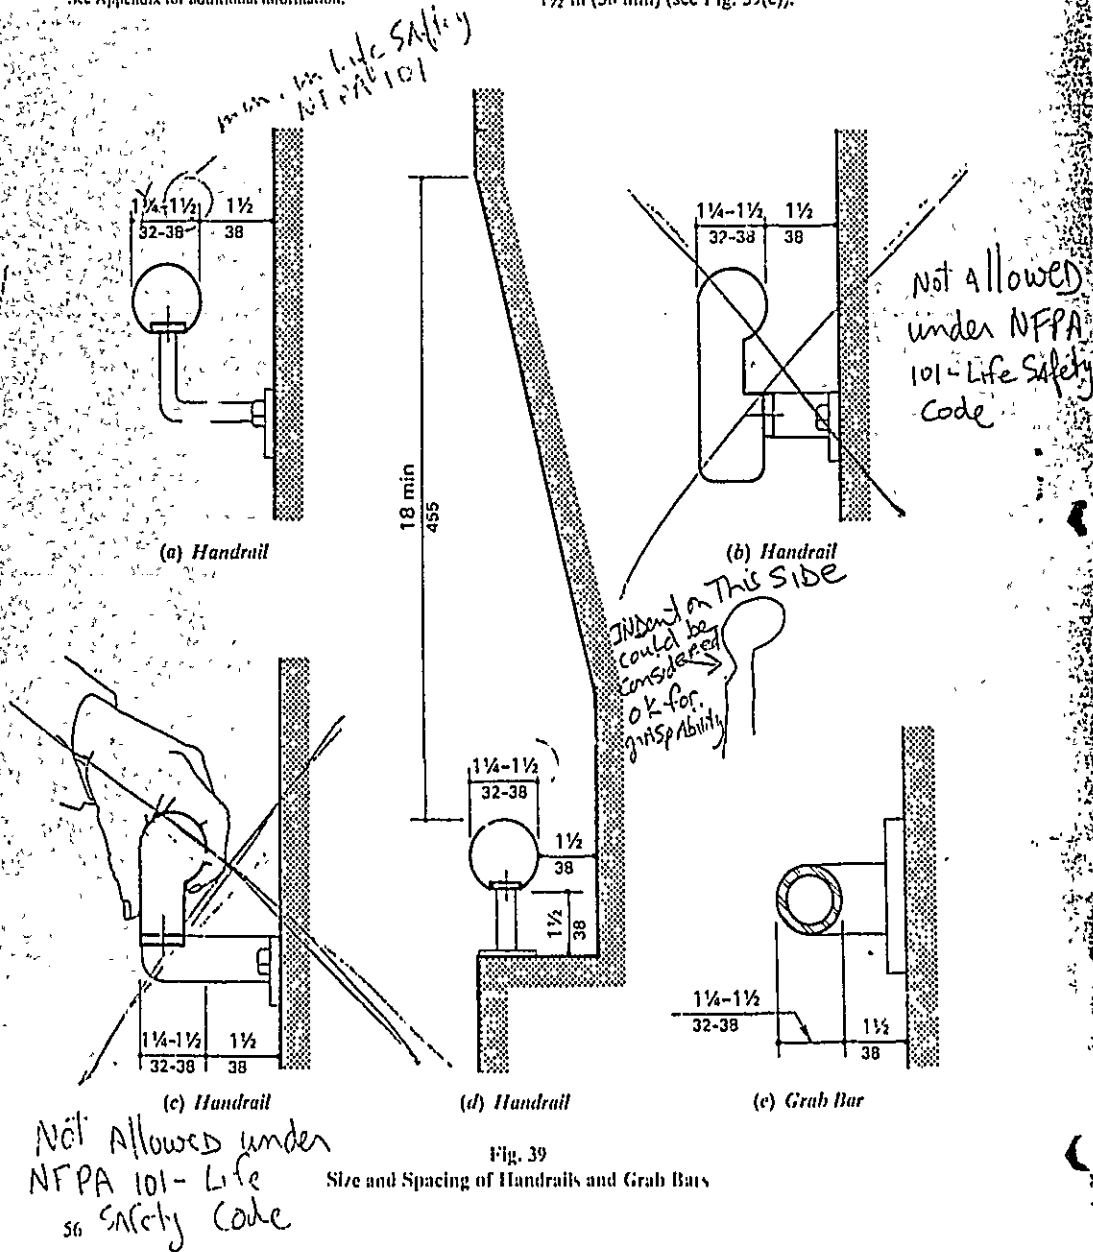

Fig. 39
- (1) Handrails shall be provided along both sides of ramp segments. The inside handrail on switch-back or dogleg ramps shall always be continuous.
- (2) If handrails are not continuous, they shall extend at least 12 in (305 mm) beyond the top and bottom of the ramp segment and shall be parallel with the floor or ground surface.
- (3) The clear space between the handrail and the wall shall be 1½ in (38 mm). Handrails may be located in a recess if the recess is a maximum of 3 in (75 mm) deep and extends at least 18 in (455 mm) above the top of the rail (see Fig. 39(d)).
- (4) Gripping surfaces shall be continuous, without interruption by newel posts, other construction elements, or obstructions.
- (5) The diameter or width of the gripping surfaces of a handrail shall be 1½ in (38 mm) to 2 in (51 mm), or the shape shall provide an equivalent gripping surface (see Fig. 39(a), (b), and (c)). Standard pipe sizes designated by the industry as 1½ in (38 mm) to 2 in (51 mm) are acceptable industry tolerances as noted under 3.2.
(6) The top of handrail gripping surfaces shall be mounted between 30 in and 34 in (760 mm and 865 mm) above ramp surfaces.
(7) A handrail and any wall or other surface adjacent to it shall be free of any sharp or abrasive elements. Edges shall have a minimum radius of ¼ in (3.2 mm).
4.24.2 Size and Spacing of Grab Bars. The diameter or width of the gripping surfaces of a grab bar shall be 1/4 in to 1 1/2 in (32 mm to 38 mm), or the shape shall provide an equivalent gripping surface. If grab bars are mounted adjacent to a wall, the space between the wall and the grab bar shall be 1 1/2 in (38 mm) (see Fig. 39(c)).